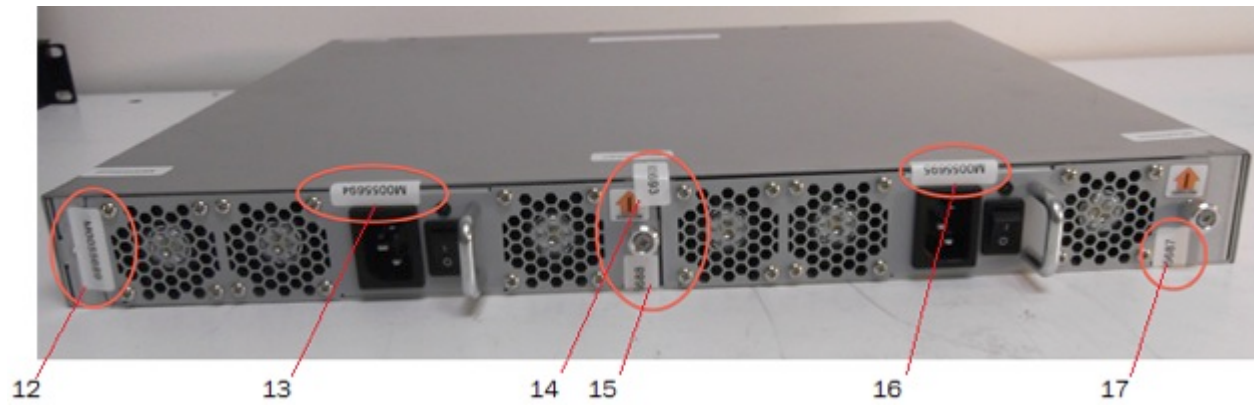

Figure 22 VDX 6740-24, VDX 6740-48 and VDX 6740-64-ALLSW top non-port side fan and power supply seal locations
4. Six (6) seals, 12 to 17, are required to complete this step. Seals 13, 14 and 16 must wrap across a 90 degree angle from the top of the chassis to the external surface of the combination power supply and fan module. Seals 15 and 17 must wrap across a 90 degree angle from the bottom of the chassis to the external surface of the combination power supply and fan module. Seal 12 bridges the seam between the chassis the combination power supply and fan module on the left side of the non-port side of the chassis. See Figure 22 for details on how to position each seal.